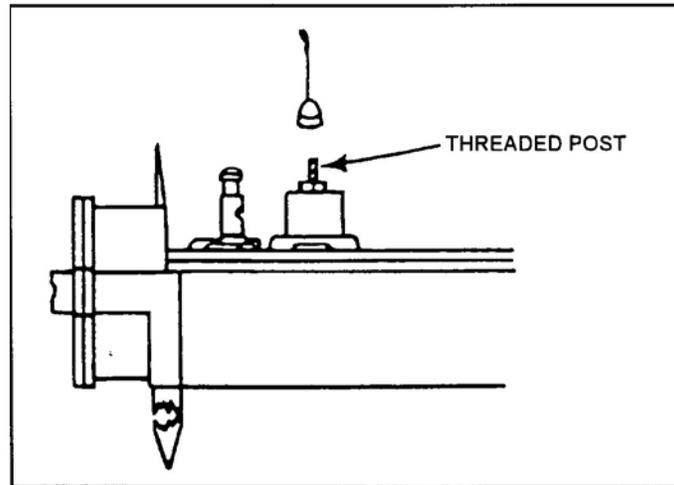

Figure 15. Detector antenna.
- (5) Close the battery compartment and tighten the screws.
- b. Install the antenna (Figure 15). Screw the detector antenna onto the threaded post on top of the detector.